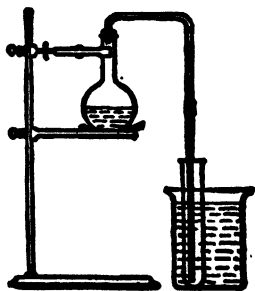

FIG. 16.
b. **Distillation.** Bend a 30 cm. piece of glass tubing twice at right angles (see Fig. 16) and fire-polish the ends. Connect with it, by means of a short piece of rubber tubing, a second glass tube also about 30 cm. long. Set up a flask and a test-tube immersed in cold water in a large beaker as in Fig. 16. Place in the flask about 100 c.c. of water, some marble chips (to prevent "bumping"), and a few drops of potassium permanganate solution. Boil the water and examine the distillate (in the test-tube).